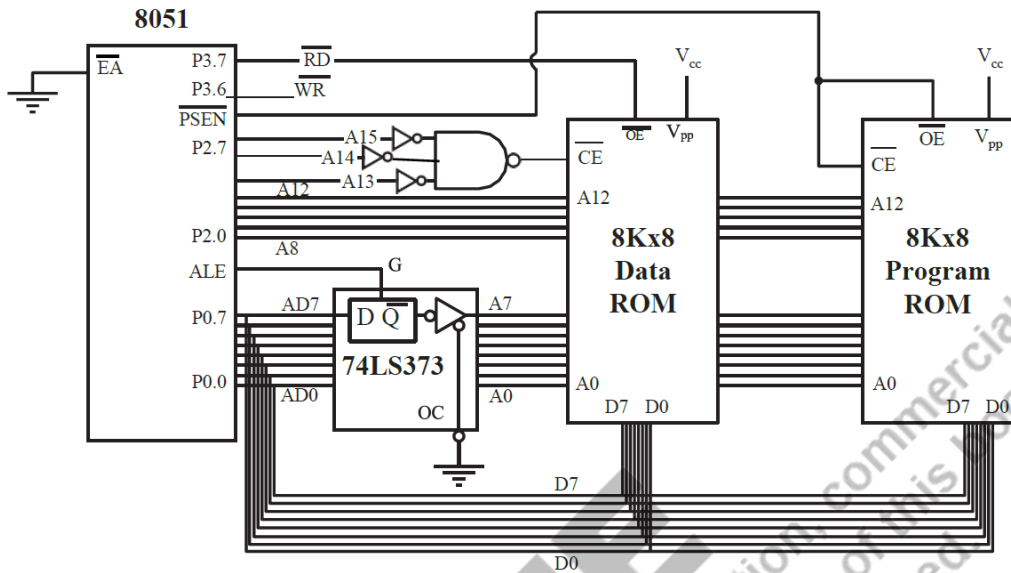

Figure 4.5: 8051 Connection to External Data ROM and External Program ROM
For program ROM, the PSEN pin is used to activate both the Output Enable (OE) and Chip Enable (CE) signals. In contrast, for data ROM, the Read (RD) pin is used to activate the OE signal, while the CE signal is activated by a simple decoder, as shown in Figure 4.5